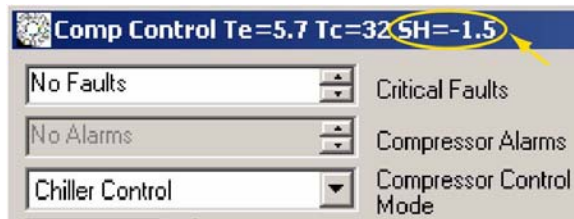

Figure 4-15 Super Heat Value
3. Check the super heat (SH) value on the title bar of the “Compressor Controller Form”. See Figure 4-15.